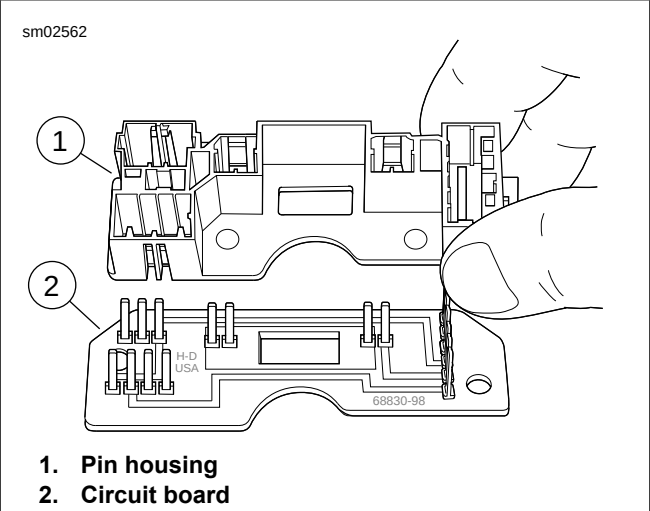

Figure 7-37. Pin Housing and Circuit Board
4. See Figure 7-37. Remove screw, pin housing (1) and circuit board (2) from base.